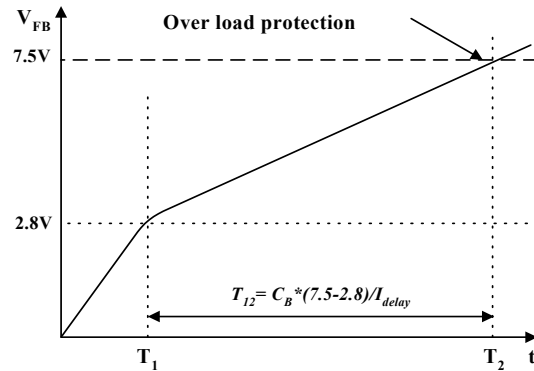

Figure 8. Over load protection
**3.1 Over Load Protection (OLP) :** Overload is defined as the load current exceeding its normal level due to an unexpected abnormal event. In this situation, the protection circuit should trigger in order to protect the SMPS. However, even when the SMPS is in the normal operation, the over load protection circuit can be triggered during the load transition. In order to avoid this undesired operation, the over load protection circuit is designed to trigger after a specified time to determine whether it is a transient situation or an overload situation. Because of the pulse-by-pulse current limit capability, the maximum peak current through the Sense FET is limited, and therefore the maximum input power is restricted with a given input voltage. If the output consumes more than this maximum power, the output voltage (Vo) decreases below the set voltage. This reduces the current through the opto-coupler LED, which also reduces the opto-coupler transistor current, thus increasing the feedback voltage (Vfb). If Vfb exceeds 2.8V, D1 is blocked and the 5uA current source starts to charge Cb slowly up to Vcc. In this condition, Vfb continues increasing until it reaches 7.5V, when the switching operation is terminated as shown in Figure 8. The delay time for shutdown is the time required to charge Cb from 2.8V to 7.5V with 5uA. In general, a 20 ~ 50 ms delay time is typical for most applications. This protection is implemented in auto restart mode.